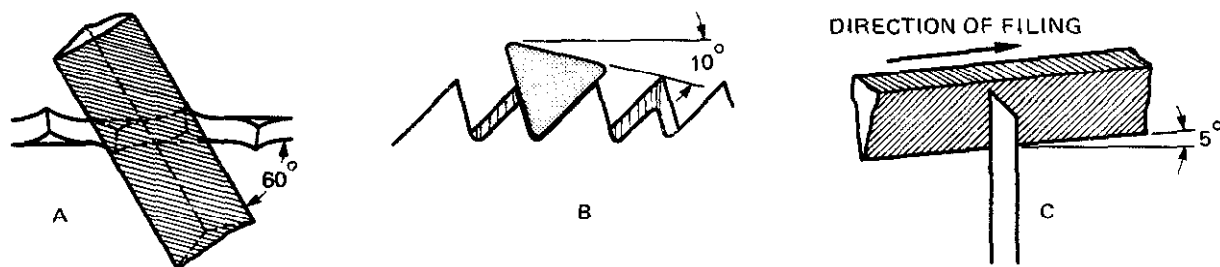

Fig. 7-22 Views showing the position of the file when reshaping crosscut teeth.
- a. The file is held at an angle from 60 degrees to 80 degrees to the blade (A, figure 7-22).
- b. The top side of the file tips about 10 degrees to 15 degrees off the horizontal toward the toe of the saw (B, figure 7-22).
- c. The handle of the file is lowered from 5 degrees to 10 degrees from the horizontal (C, figure 7-22). The purpose of this is to form a point on the top of the tooth.
NOTE: Positioning the file at the three different angles shown in figure 7-22 is not possible if much shaping is required. If this is the case, hold the file level and at 90 degrees to the blade as though shaping rip saw teeth. Keep the file positioned as shown at C. Rough shape the teeth in this manner, disregarding the forming of bevels until the final shaping.
4. Carefully align the file in the first tooth at the toe end to the correct angles as described for shaping the teeth (figure 7-22).